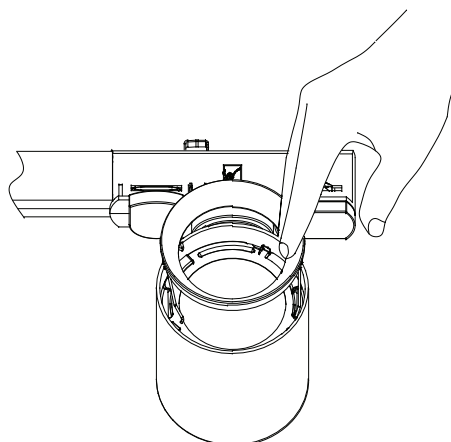

Fig.8
Step 1: Gently move front cap forward to remove it. (See **Fig 8**)